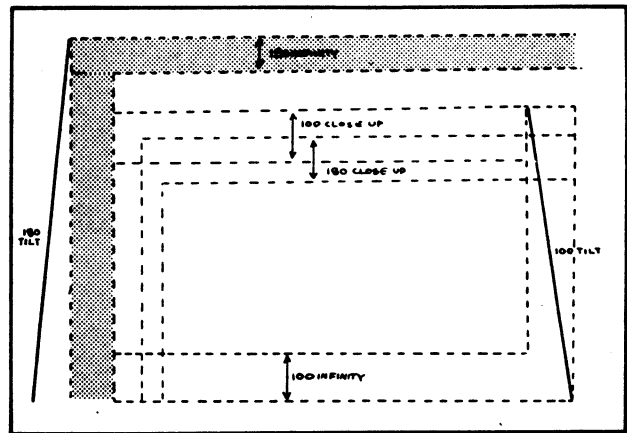

FIG. 3.7 FRAME TARGET - 180 INFINITY & 180 TILT
- b. Move the focus bar to INFINITY: Observe that the top horizontal line of the yellow projected frame image is within the area bounded by the 180 infinity target lines (Figure 3-7). If it isn't, adjust the horizontal parallax as instructed in Section V.
Observe that the left side vertical line of the yellow projected frame image is within the area bounded by the 180 tilt target lines (Figure 3-7). If it isn't, adjust the vertical parallax as instructed in Section V.